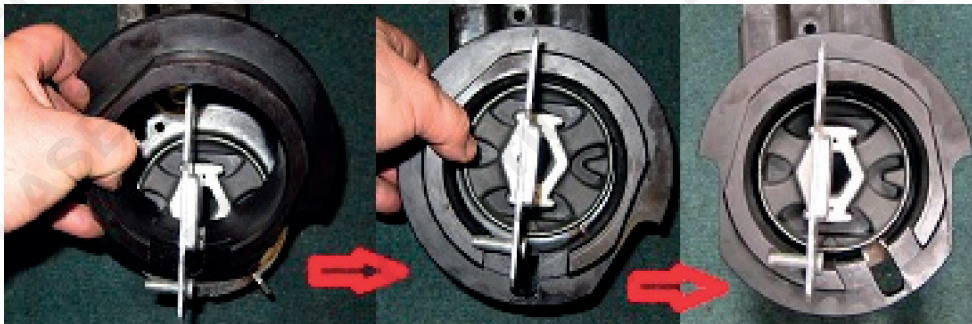
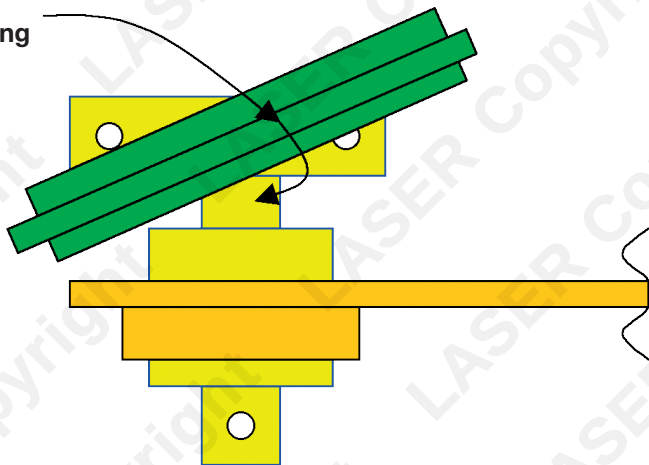

Fig 4
Fig 4.1
- Mount the extraction ring (without pins) as shown in **Fig 4.** and **Fig 4.1.**